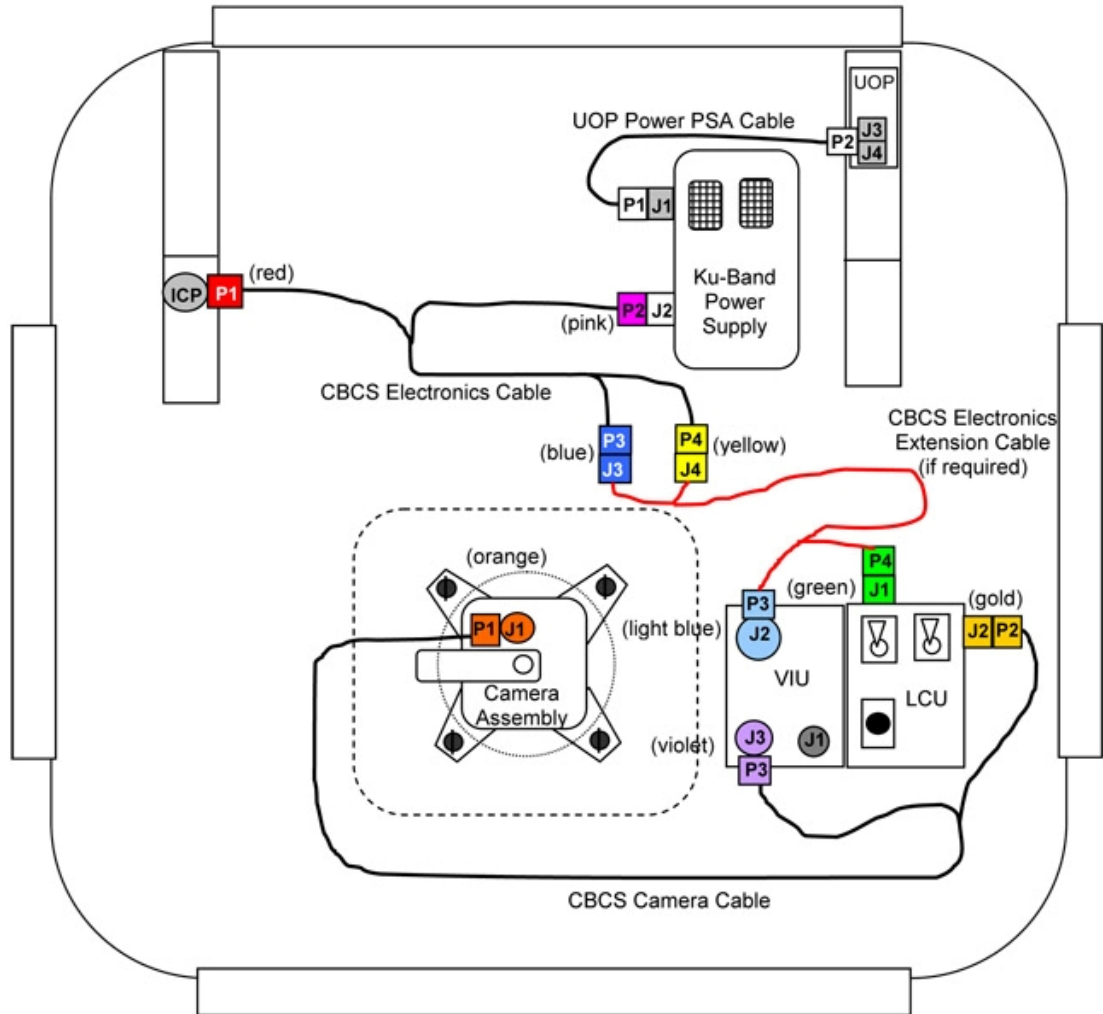

Figure 1.- Example CBCS Installation Diagram.
Figure 1 shows an example CBCS installation. For PMA3 install, the N3 Internal Camera Port (ICP) will be used along with Node 3 UOP 3. This was also the set-up for Cupola relocate.
3.2 ✓ All CBCS cables mated per Figure 1